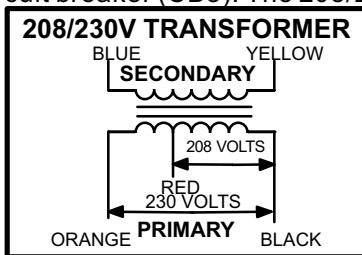

FIGURE 3
use two primary voltage taps as shown in figure 3, while 460 (G) and 575 (J) voltage transformers use a single primary voltage tap.